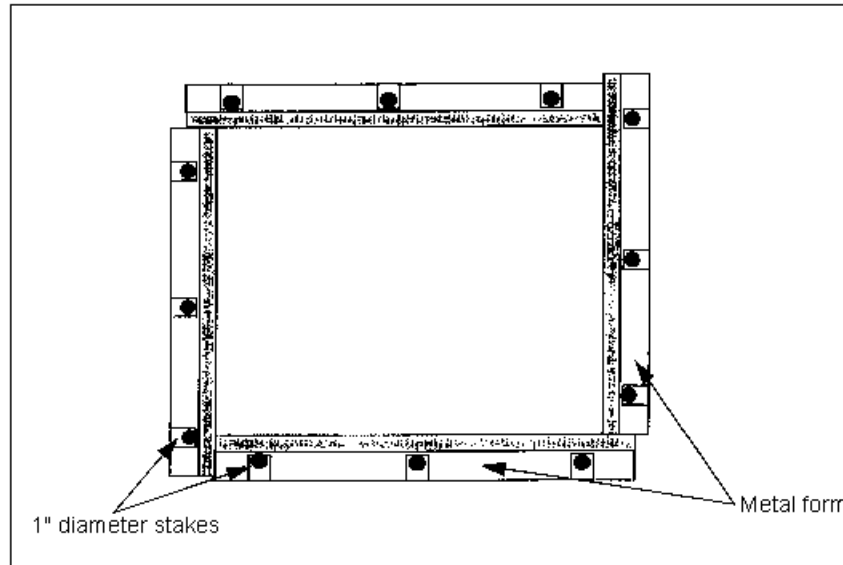

Figure 051-236-1166-3
3. Construct a steel-form slab (Figure 051-236-1166-3).